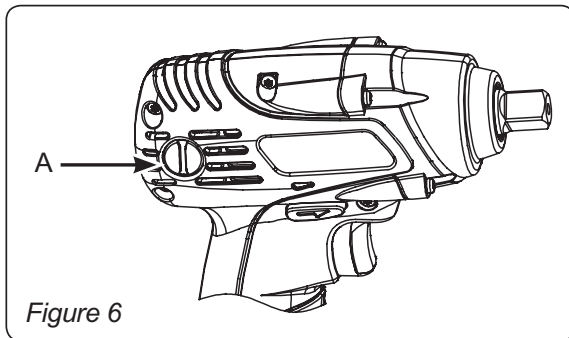

Figure 6
1. Completely unscrew the cap (Fig. 6, A)